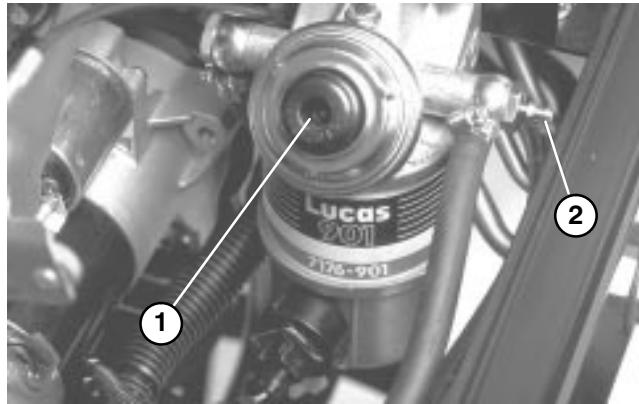

Figure 19
## PRIMING FUEL SYSTEM (Fig. 19 & 20)
3. Loosen fuel filter / water separator bleed screw (Fig. 19) a few turns. Pump priming plunger until a steady stream of fuel comes out of hole in bleed screw. When fuel stops foaming, tighten the bleed screw during the downstroke of the priming plunger. Wipe up any spilled fuel.